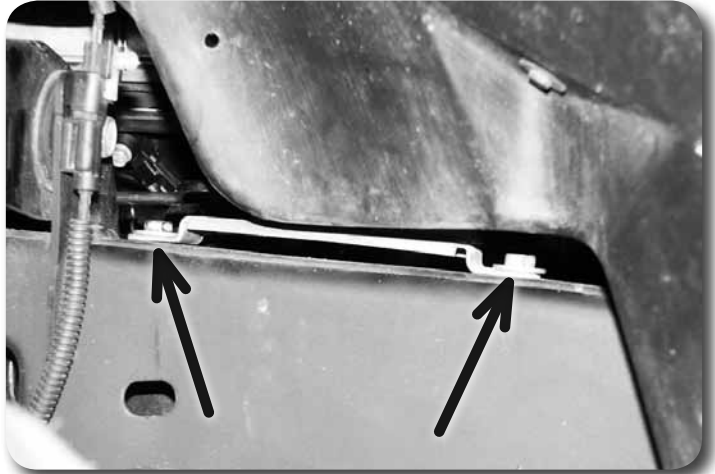

Figure 3
8. Remove the two bolts mounting the brake line junction block (located just behind the upper control arm) to the top of the driver's side frame rail **Figure 3**.